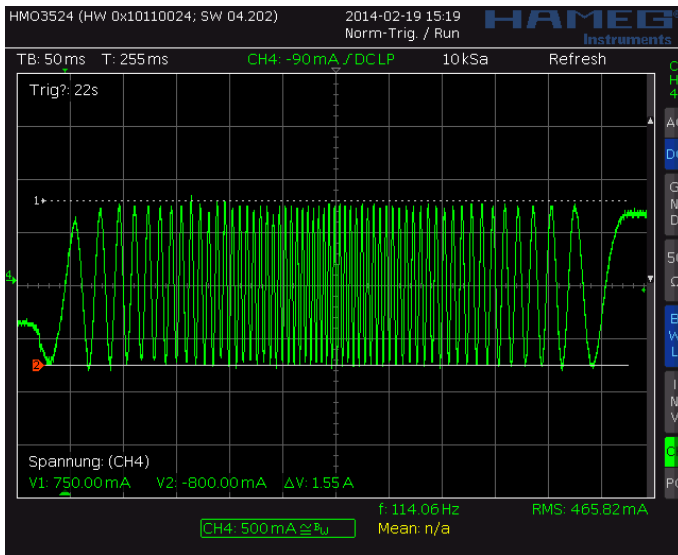
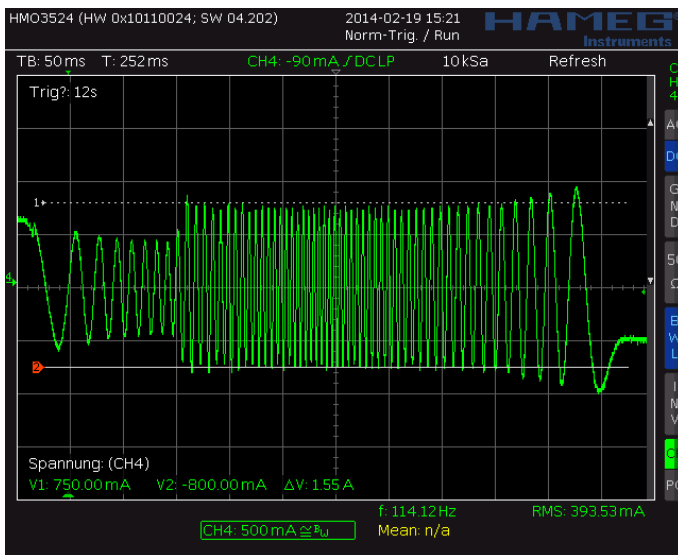
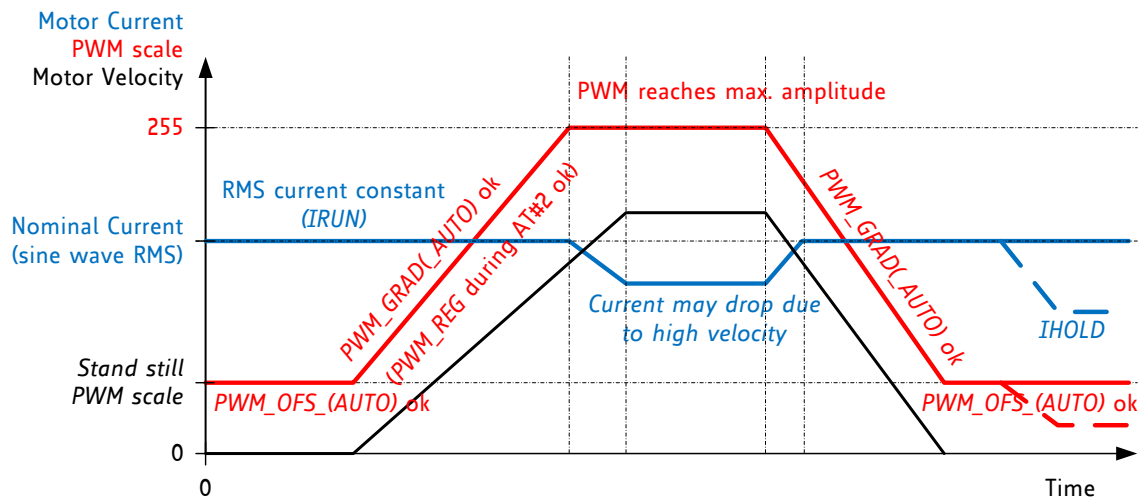

Figure 7.3 Scope shot: good setting for PWM\_REG
Figure 7.4 Scope shot: too small setting for PWM\_REG during AT#2
Figure 7.5 Successfully determined PWM\_GRAD(AUTO) and PWM\_OFS(AUTO)
In stealthChop voltage PWM mode, the autoscaling function ( $pwm\_autoscale = 1$ ,  $pwm\_autograd = 1$ ) regulates the motor current to the desired current setting. Automatic scaling is used as part of the automatic tuning process (AT), and for subsequent tracking of changes within the motor parameters. The driver measures the motor current during the chopper on time and uses a proportional regulator to regulate  $PWM\_SCALE\_AUTO$  in order match the motor current to the target current.  $PWM\_REG$  is the proportionality coefficient for this regulator. Basically, the proportionality coefficient should be as small as possible in order to get a stable and soft regulation behavior, but it must be large enough to allow the driver to quickly react to changes caused by variation of the motor target current (e.g. change of  $VREF$ ). During initial tuning step AT#2,  $PWM\_REG$  also compensates for the change of motor velocity. Therefore, a high acceleration during AT#2 will require a higher setting of  $PWM\_REG$ . With careful selection of homing velocity and acceleration, a minimum setting of the regulation gradient often is sufficient ( $PWM\_REG=1$ ).  $PWM\_REG$  setting should be optimized for the fastest required acceleration and deceleration ramp (compare Figure 7.3 and Figure 7.4). The quality of the setting  $PWM\_REG$  in phase AT#2 and the finished automatic tuning procedure (or non-automatic settings for  $PWM\_OFS$  and  $PWM\_GRAD$ ) can be examined when monitoring motor current during an acceleration phase Figure 7.5.